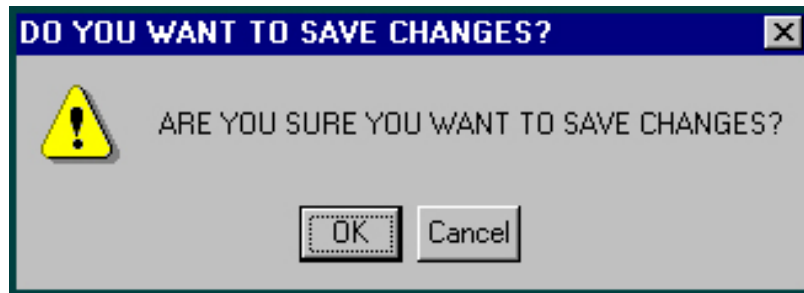

Figure 44
- 613 When the "ARE YOU SURE YOU WANT TO SAVE CHANGES?" dialog box appears, click on the "OK" button. See Figure 44.